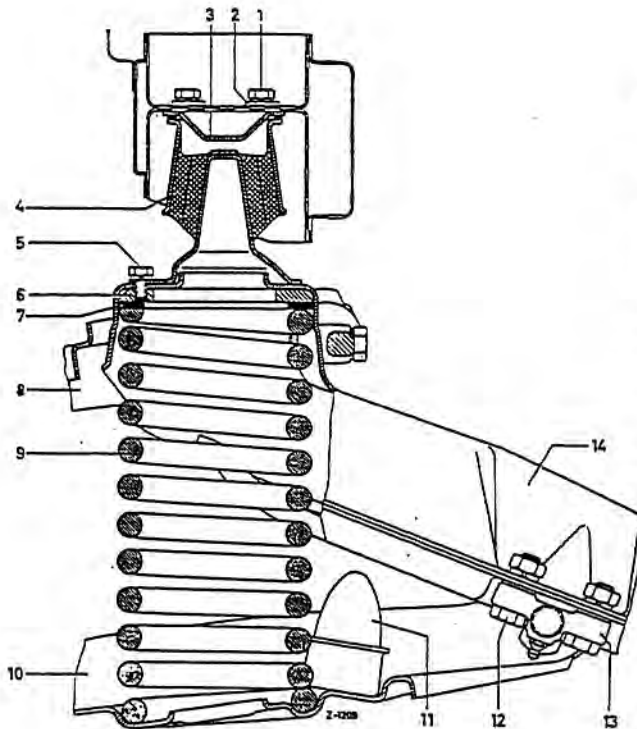

Fig. 33-1/6
**Note:** The upper part of the rubber mounting has an eccentric position on the lower fixing cup. When installing the rubber mounting make sure that the wider part of the cup points outward (Fig. 33-1/6).